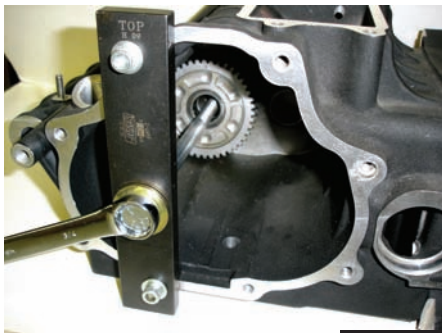

FIG 2
2. Attach the installation bar tool No. **987-2** to the trap door side of case. Use two allen screws with washers H-D No.**3249** from existing trap door mounting hardware. **See Fig 2** for door mounting holes to locate plate correctly on case. Also, the plate has been laser marked with "Top" on the plate and should face you. **See Fig 2.**
3. Install No. **1735** onto No. **2138** 12" long screw then insert through center hole of No. **987-2** installation bar and into case, through the mainshaft gear. **See Fig 2.**
Caution: *When performing the next step of removing the gear from the bearing you may encounter some resistance beyond what this tool can handle and could damage the case. If you feel a binding stop and apply heat to the bearing race as shown. Do not exceed 210 degrees. This should free up the gear. If that doesn't work it will be your decision on how to extract the main drive gear and bearing. See Fig 2 & 4*